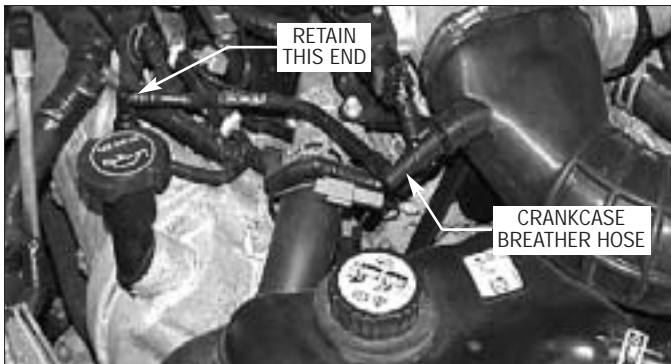

Fig. 1-a
- A.** Loosen the hose clamp at the throttle body. Disconnect the plastic 3/8" tube assembly attached to the passenger's side valve cover. Remove the plastic 3/8" x 90° connector from the plastic tube that was connected at the passenger's side valve cover. Set this connector aside to be re-used in a later step. Discard the remainder of the hose assembly, as it will not be re-used. (See Fig. 1-a.)